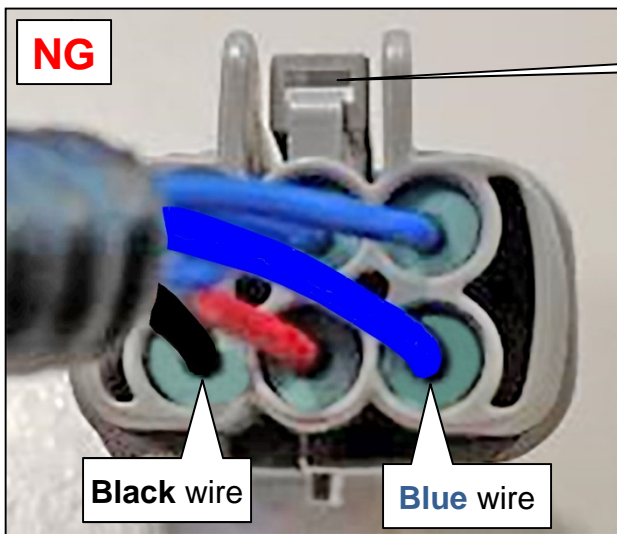
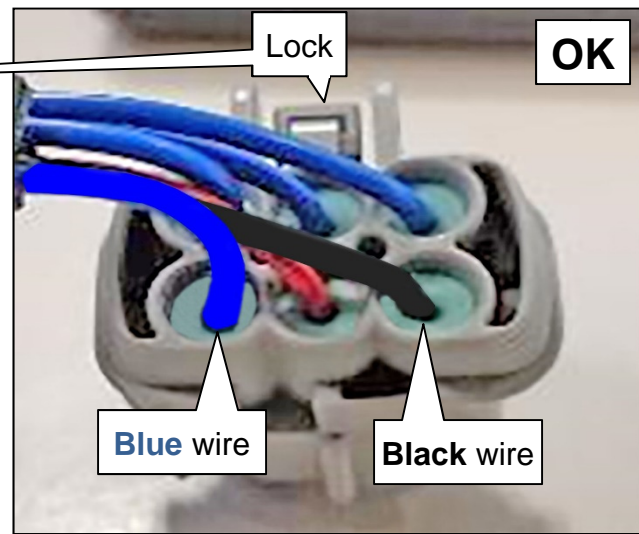

Figure 10
Figure 11
13. Remove the terminals of the **blue** and **black** wires from the combination lamp harness connector (see Figure 10 and 11 for selecting the correct **blue** wire).
NOTE: The color of the **blue** wire in Figure 10 and Figure 11 is enhanced for easier viewing. Normally, it is the same shade of **blue** as the other **blue** wires.